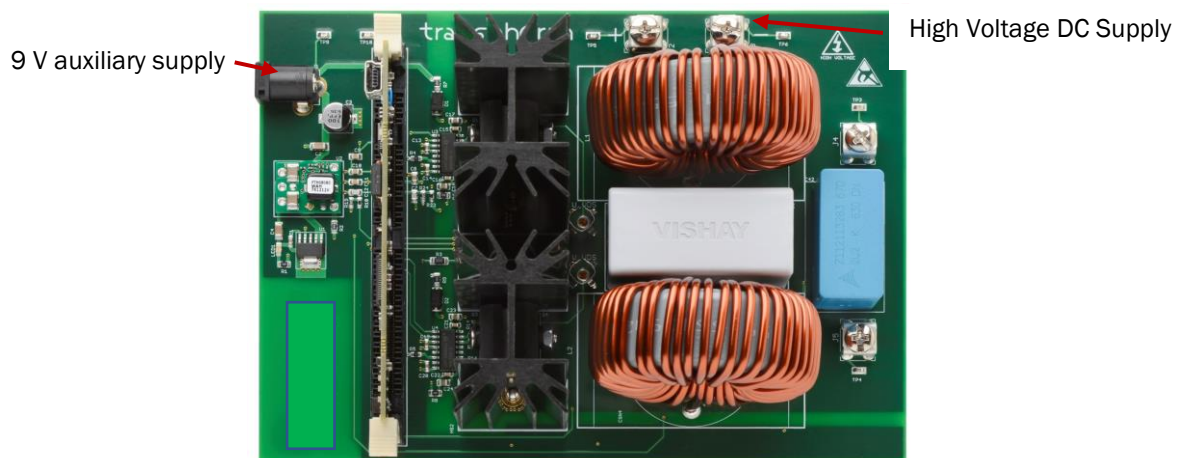

Figure 4. Connections
- Refer to Figure 4. Insert the microcontroller card to the DIM100 socket before applying any power to the board.